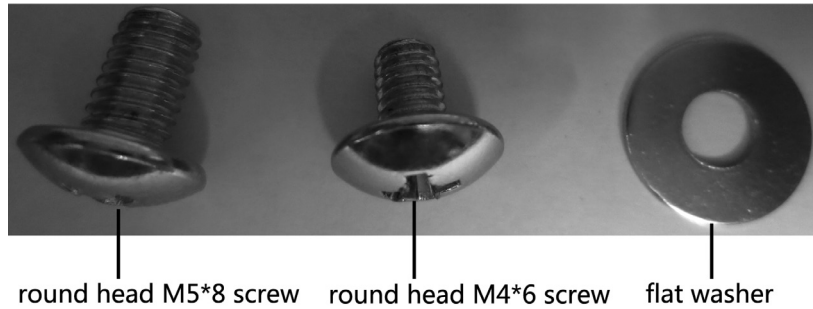

Figure 5
- Metric screw package contains 18 round head M5*8 screws, 18 round head M4*6 screws, 10 flat washers and many other screws. The following Figure 5 shows the commonly used round head M5*8 screw, round head M4*6 screw and flat washer.